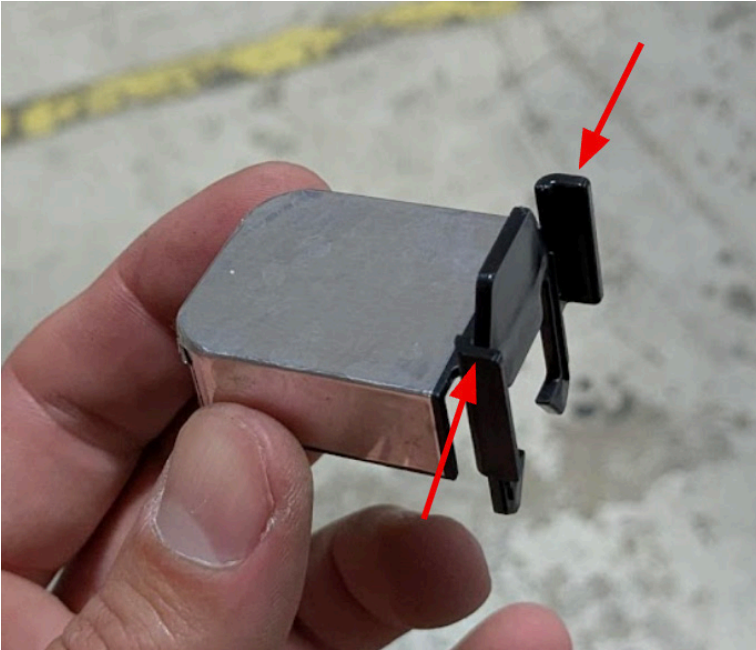

Figure 25
17. Pinch the locking tabs on the center two (2) parking sensor covers to remove them. Set them aside for reassembly later. (Figure 25)